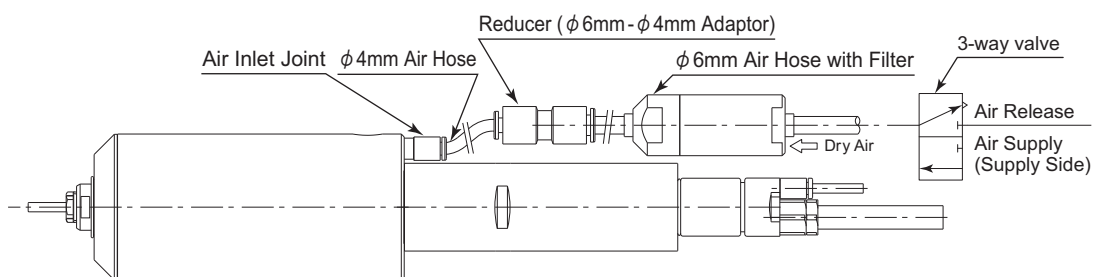

Fig. 4
• When installing the collet clamp / unclamp fittings, thoroughly read the instructions before connecting. (Fig. 4)